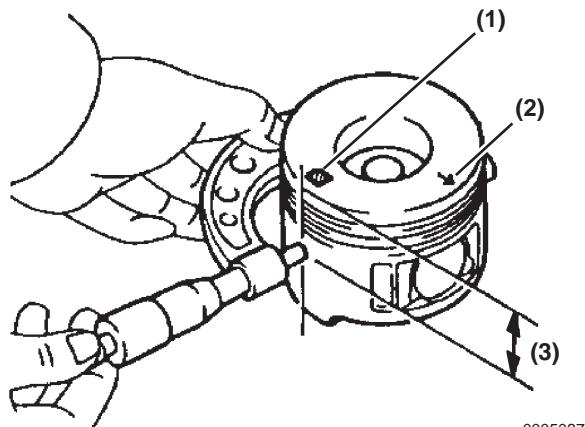

Figure 5-114
4. Measure the piston diameter and oil clearance. There are three types of pistons having different piston diameters, which are identified by marks "1", "2" and "3". The marks are stamped on the piston tops (**Figure 5-114, (1)**).
Measure the piston diameter at right angle to the piston pin at the "L" position (**Figure 5-114, (3)**) from the piston top, using a micrometer.